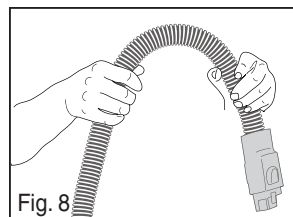

Fig. 8
- Flex hose to clear any blockage (Fig. 8).